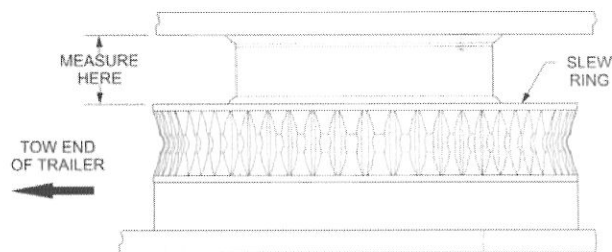

Figure 4-7. Slew Ring Position Measurement
- Measure the distance between the slew ring gear and the horizontal plate above, using a 2 in. (50 mm) caliper or bore micrometer. Refer to Figure 4-7.